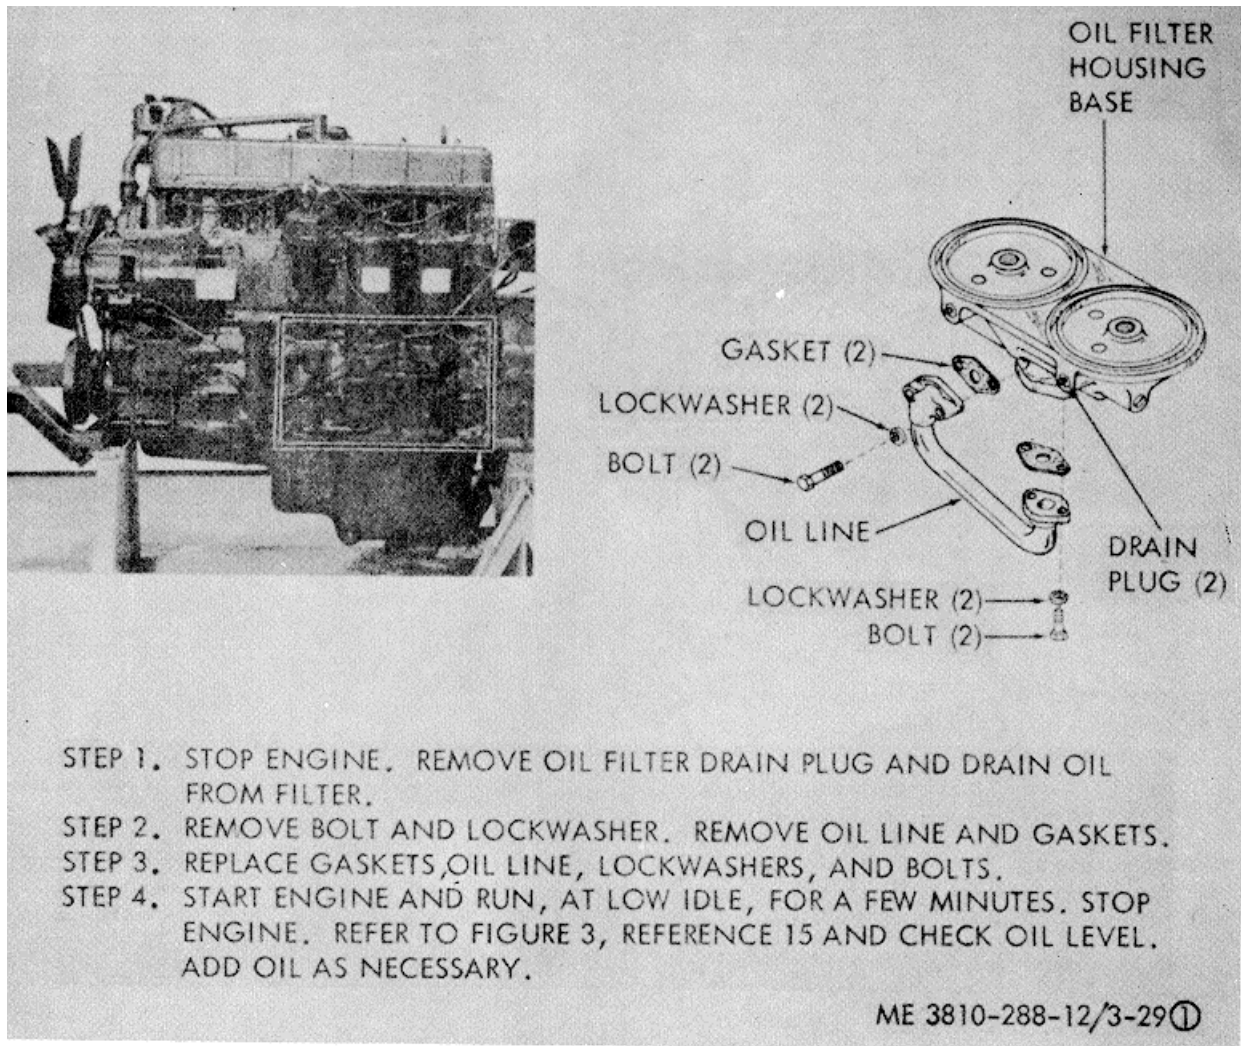

Figure 3-29. Eternal engine oil lines, repair and replacement. (Sheet 1 of 2E)
(3) Insert a suitable ratchet extension into the socket in the front of the vibration damper and turn the engine over until the mark on the engine flywheel indicates that number one piston is on top dead center on the compression stroke. Refer to figure 3-29 for vibration damper location and figure 3-41 for the appearance of the top dead center mark.